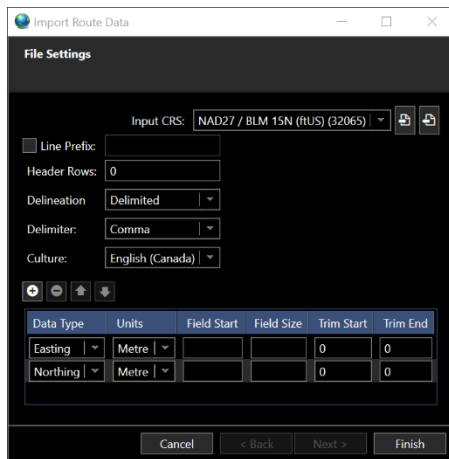

FIGURE 9-28 PIPELINES - IMPORT ROUTE DATA - FILE SETTINGS
4. The **Import Route Data** wizard is launched on the first page, File Settings (see Figure 9-28)